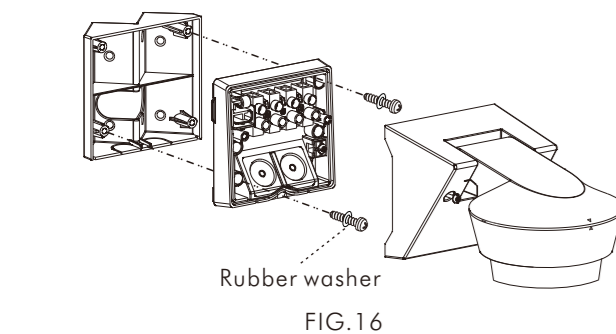

FIG. 16
- 3.4.2.2 Break the desired screw knock-outs (See FIG.14-A). Then fix the mounting bracket onto recess/conner with wood screws (See FIG.15-A& FIG.15-B), and fix bottom cover on mounting bracket (See FIG.16). Refer to FIG.5-FIG.7 to connect power cables, then fix the detector head to the bottom cover and adjust the detector head to be in the correct position.